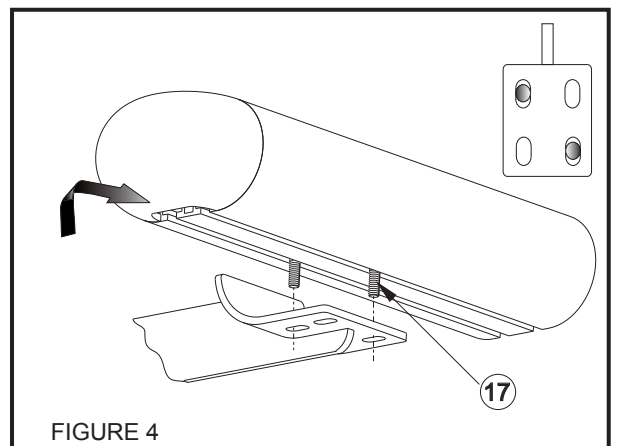

FIGURE 4
- STEP 7. Slide T-head bolts on step bar as shown (2 per slot, 4 per bar). Place step bar on saddle with long step pad forward and end cap screw facing inward. Assemble with 1/4" fasteners. **SEE FIGURES 4 AND 5.**